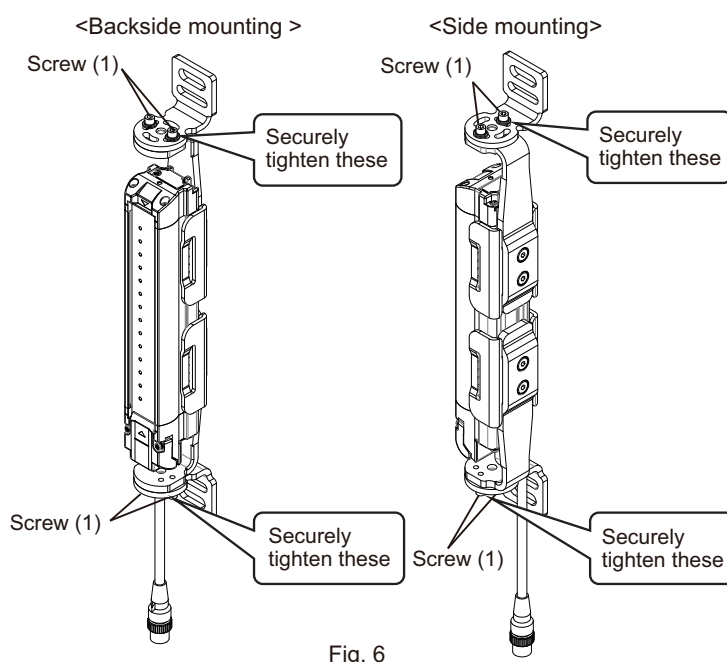

Fig. 6
5. Securely tighten the Screw (1) to fix the Top/Bottom Adjustable Bracket to the housing of the F3SG-R. The recommended torque to tighten the Screw (1) is 3.0 N•m. (Fig. 6)